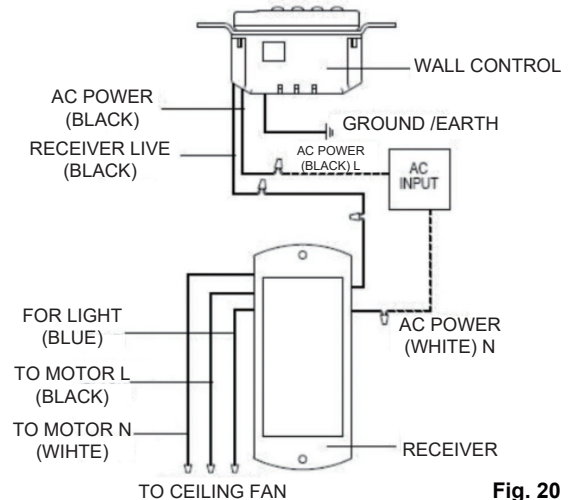

Fig. 20
- Step 2. Make the electrical connections as shown in Fig.20 . If your outlet box has a ground wire (Green or Bare Copper) connect the transmitter's ground wire directly to one of the screws from the outlet box. Secure all wire connections with the plastic wire nuts provides.